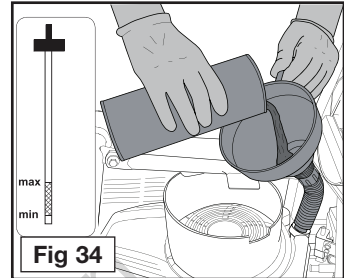

Fig 34
- 3) Use a funnel to fill up (fig.34)
- The oil level must be between the MIN and MAX notches of the dipstick (see fig.34).